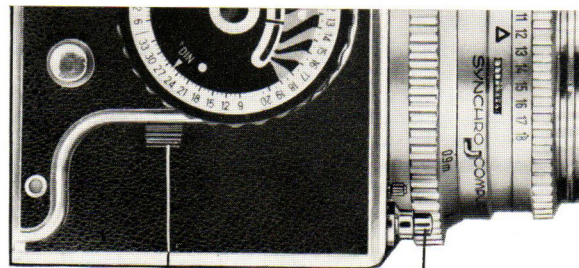

Fig. 15
- you opened the auxiliary shutter and raised the mirror by pressing the quick-release button and then did not complete the exposure by releasing the between-lens shutter. See page 14, Fig. 15.